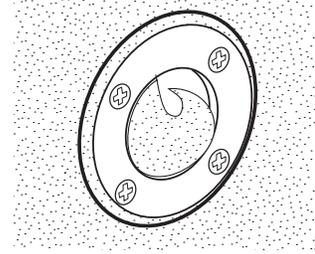

Figure 10. Wall Fitting Face Plate
1. Locate the wall fitting and the four empty screw holes (see Figure 10).